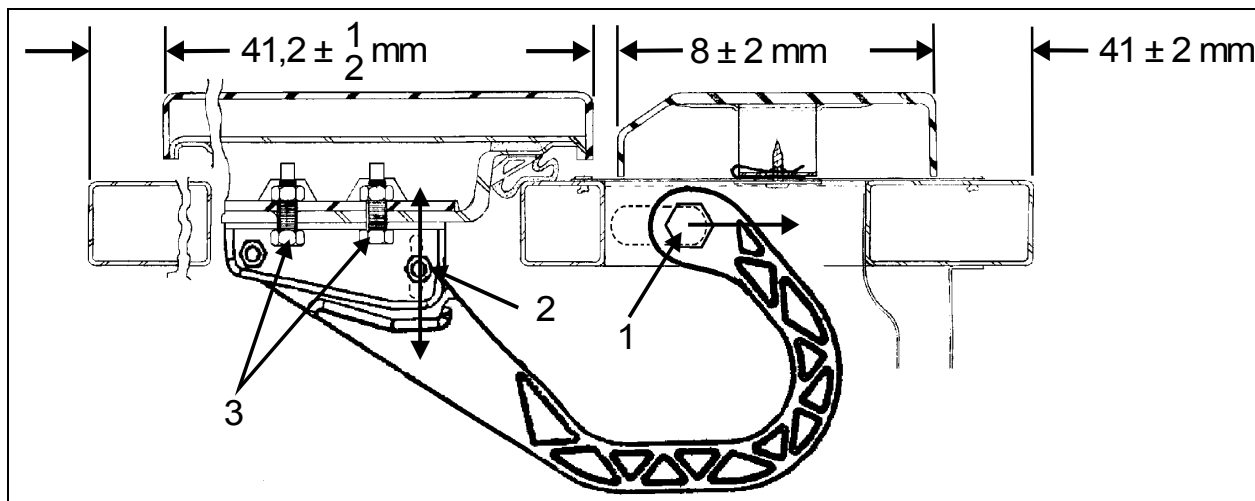

FIGURE 75: EVAPORATOR DOOR
4. Tighten nut (1, Fig. 75).
5. Loosen nut (2, Fig. 75). Hinge allows the door to be shifted "IN or OUT".
7. Loosen screws (3, Fig. 75). Screws allow the door to be shifted "UP or DOWN".
2. Loosen nut (1, Fig. 75).